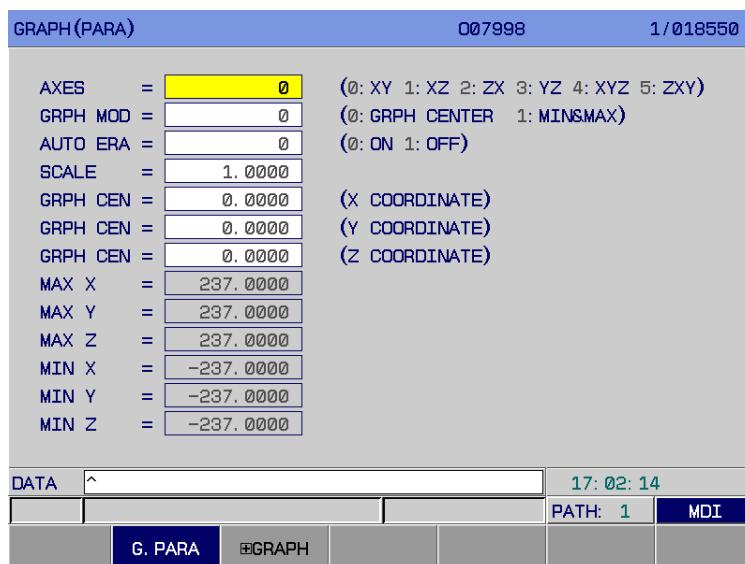

Fig. 3-5-1
Press key **GRAPH** to enter the graphic page which consists of two subpages: **G. PARA** and **GRAPH**. They can be switched between each other by corresponding soft keys. (See Fig.3-5-1)
1) Graphic parameter page: Press soft key **G. PARA** to enter this page, see Fig.3-5-1.